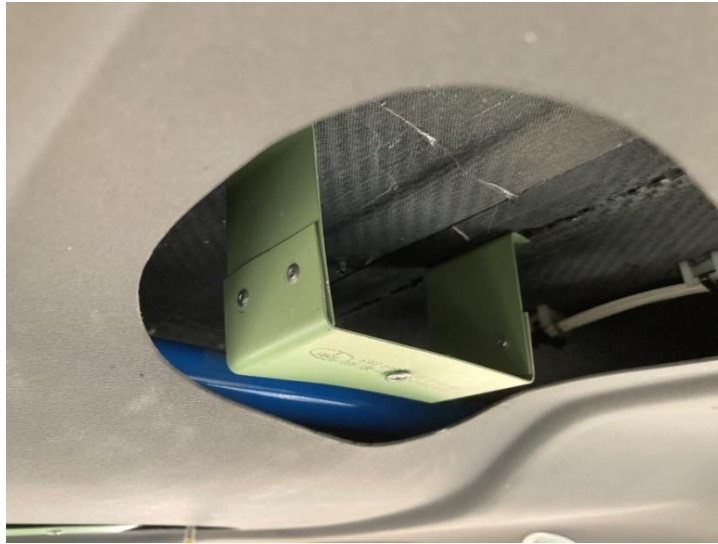

Figure 35 - Modified Bracket
- 5) Cut the existing brackets in the aircraft and shorten them as necessary so that the Forward Duct Hanger sits level with the other Hangers. See Figure 35.